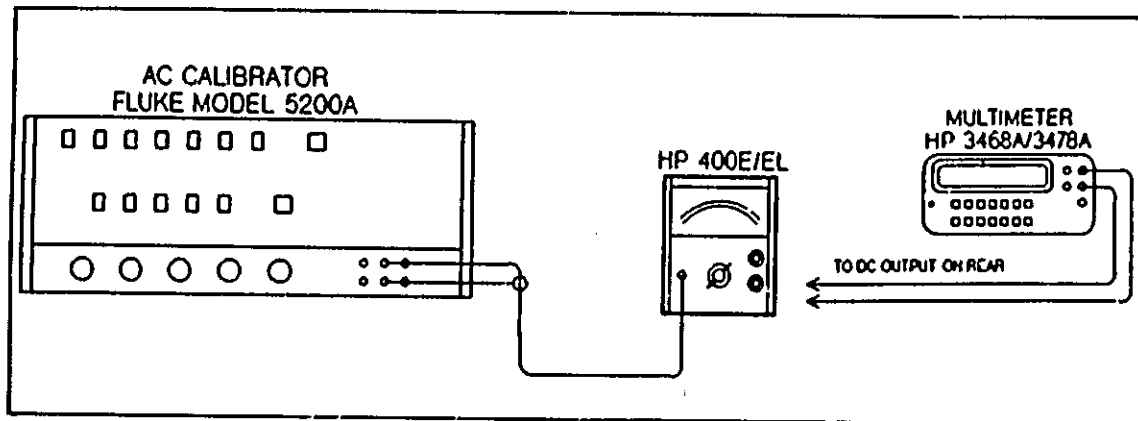

Figure 5-1. Accuracy Test Setup.
5-17. Refer to Figure 5-1. Use the recommended ac calibrator and digital multimeter to check the Model 400E/EL accuracy on the .001V through 100V ranges. To check the 300V range, use the recommended power amplifier (Fluke Model 5215A) with the ac calibrator. Do the following:
- b. Connect the ac calibrator and digital multimeter to the Model 400E/EL as shown in Figure 5-1.
- c. Connect the ac calibrator and digital multimeter to the Model 400E/EL as shown in Figure 5-1.